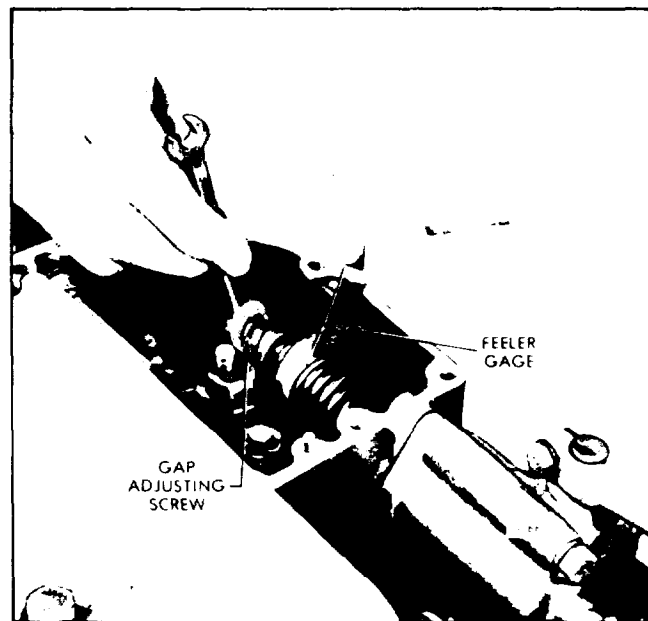

Fig. 2 Adjusting Governor Gap
5. Insert a .006" feeler gage between the spring plunger and the plunger guide as shown in Fig. 2. If required, loosen the lock nut and turn the adjusting screw in or out until a slight drag is noted on the feeler gage.